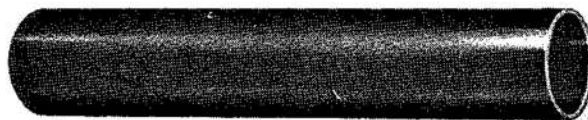

Fig. 3 Abrasion resistant sleeve Part No. AE251(900961)
- (3) Sleeve Part No. AE251 (formerly Part No. 900961) (fig. 3). This sleeve is an extruded, translucent, seamless FEP 100 Teflon tube and is used for abrasion protection in high temperature applications of  $-53.8^{\circ}\text{C}$  to  $+204.4^{\circ}\text{C}$  ( $-65^{\circ}\text{F}$  to  $+400^{\circ}\text{F}$ ). The sleeve is unaffected by fuels, lubricating oils, coolants or solvents used in aircraft service. When supplied in bulk, each length is identified by a tape at each end which shows: Part No., - size, manufacturers code. Additional tapes are attached to lengths in excess of 3.048 m (10 ft).